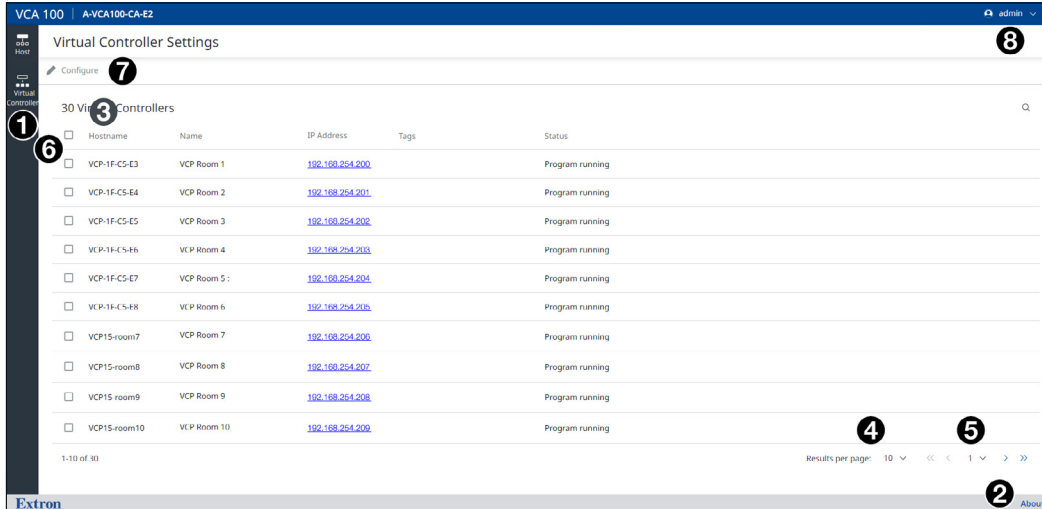
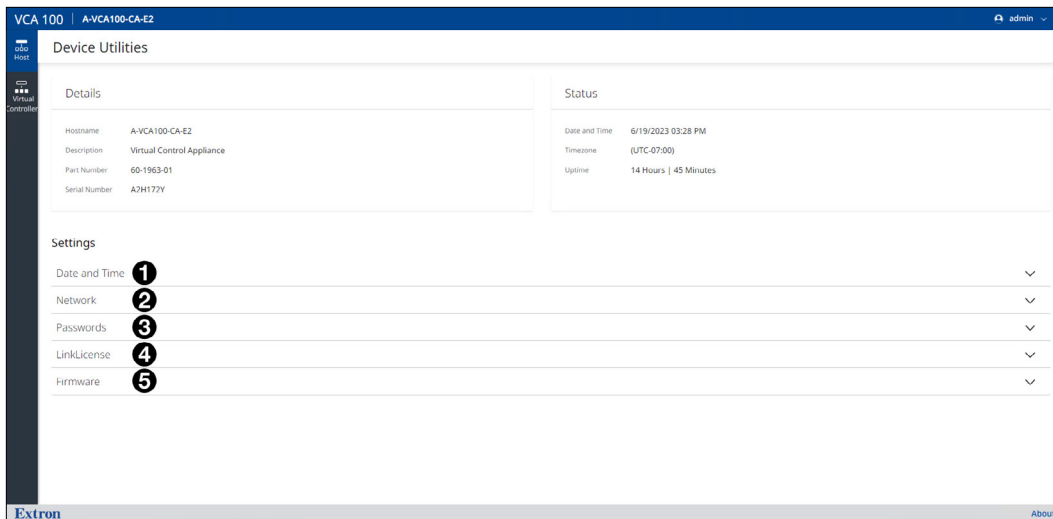

Figure 6. VCA 100 Default Web Pages — Home
Figure 7. VCA 100 Home Page
All the default web pages show the menu bar (see figure 6, ①), the **About** link (②) and the user type (③). The **About** link opens the **About Page** (see page 23), which provides information about the VCA 100. The user type shows either user or admin. Click on **admin** or **user** to see the log out option.
The Home page provides either an overview of the VCA 100 (see figure 7) or a list of the currently available VCPs (shown in figure 6).